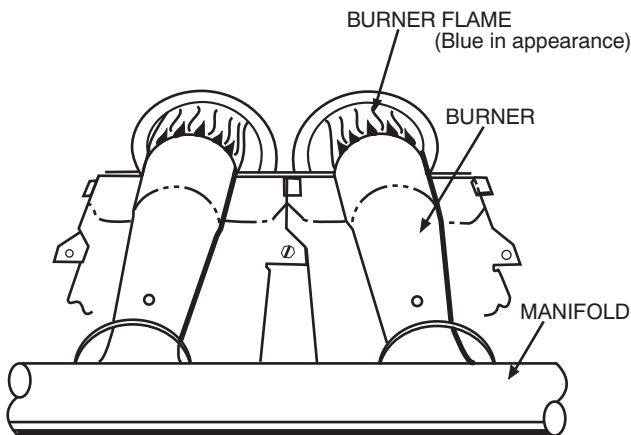

Fig. 5 - Monoport Burner
33. With burner access panel removed, observe unit heating operation in both low stage operation and high stage operation. Watch burner flames to see if they are blue in appearance, and that the flames are approximately the same for each burner (see Fig. 5).